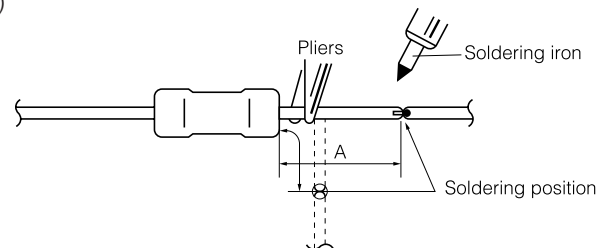

Fig.1
- 2) When using a soldering iron, release heat by using pliers or the like as shown in Fig. 1 to minimize the heat effect to the resistance element. If soldered for a long time at high temperature the performance may be deteriorated by heat, or the resistor may open. So, keep a safe distance over 6 mm from the body and solder within 3 seconds at 300 °C or lower temperature.